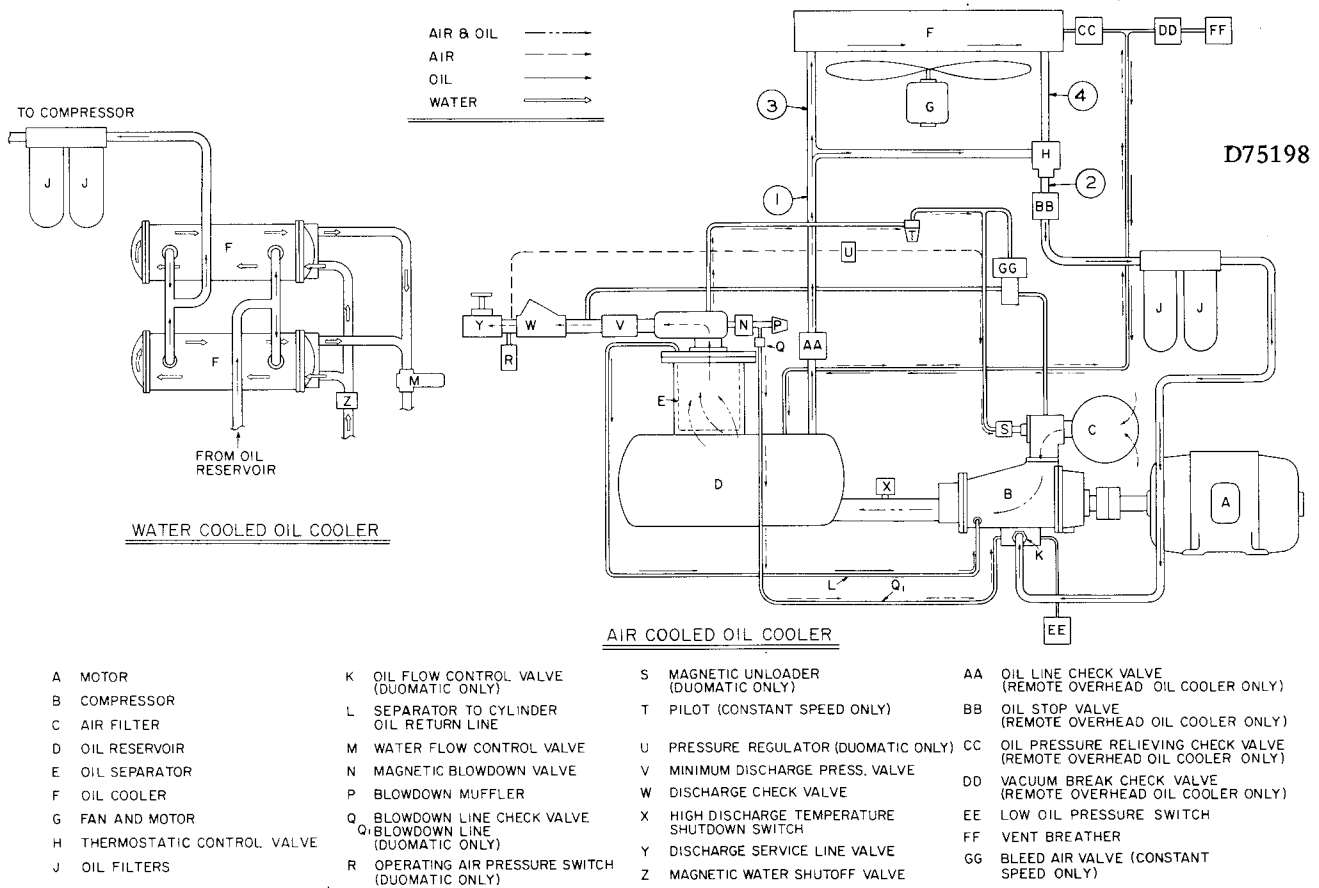
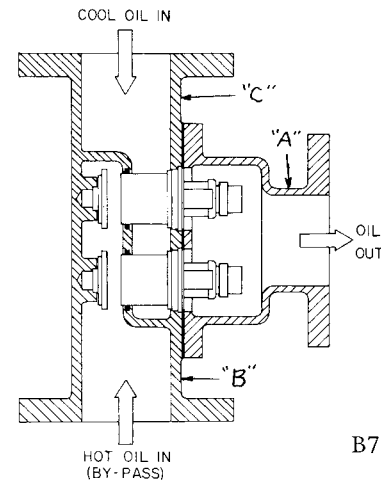
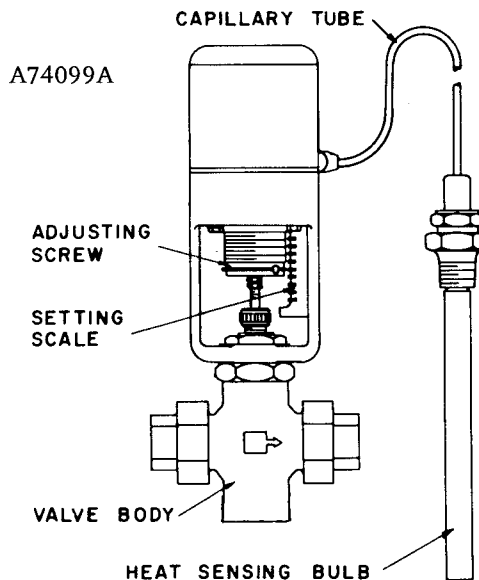

FIGURE 1-5. — FLOW DIAGRAM — AIR-OIL SYSTEMS
FIGURE 6-5. — THERMAL (THERMOSTATIC) MIXING VALVE
FIGURE 7-5. – WATER CONTROL VALVE
**COMPRESSOR OIL SYSTEM** (Figures 1-5 & 2-5) cools the compressor, lubricates moving parts and seals internal clearance in the compression chamber.
**THERMAL (THERMOSTATIC) MIXING VALVE (Used With Radiator-Type Oil Cooler Only)** (Figure 6-5) is installed in the system as shown in the flow diagram, Figure 1-5. On start-up with unit cold, the elements are closed to oil cooler allowing oil to circulate through bypass directly from oil reservoir to compressor during warm-up. As oil warms, elements gradually open to cooler and close to bypass to allow oil from cooler to mix with oil from bypass. After unit is warmed up, mixing valve maintains oil injected into compressor at a minimum of 130° F. This system provides proper compressor warm-up and prevents moisture contamination of oil.
To check elements, heat in oil — they should be fully extended at 130° F. If unit shuts down due to high air discharge temperature, the cause may be that one or both of the elements is stuck closed to the cooler thus blocking cooler out of the system, in which case lines 1 and 2 (Figure 1-5) will be hot to the touch and lines 3 and 4 much cooler. When flushing the oil system, remove the thermal elements and clean all parts thoroughly.
**COMPRESSOR OIL COOLER — WATER-COOLED HEAT EXCHANGER** (Figure 5-1) — The heat exchanger oil cooler is a multiple pass type, with water in the tubes and oil in the shell. The water flow is regulated by a self-operated flow control valve (Figure 7-5) installed in the water outlet line from the oil cooler as shown in the flow diagram (Figure 1-5) and designed to maintain the oil injected into the compressor at a minimum of 130° F.
**WATER FLOW CONTROL VALVE FOR HEAT EXCHANGER** (Figure 7-5) – The water flow control valve is adjustable to compensate for varying inlet water temperatures. Use the oil temperature thermometer on the instrument panel in setting the flow control valve. **To decrease water flow** (increase oil inlet temperature) turn the adjusting screw from left to right, increasing spring tension. **To increase water flow** (decrease oil inlet temperature) turn the adjusting screw in the opposite direction. The groove at the lower edge of the adjusting screw is an index line for use with the index scale 0 to 8 in obtaining a desired setting.
**WATER SHUTOFF VALVE – WATER-COOLED HEAT EXCHANGER** (Figure 1-5) – A magnetic solenoid-operated water shutoff valve rated at 150 PSIG water pressure is supplied in the water inlet line ahead of the oil cooler. The valve is wired into the compressor control circuit and opens to allow water to flow any time the ON-OFF push button is ON and the compressor is running. When compressor stops under automatic control, or is shut off manually, the valve closes, stopping water flow through the system.
**OIL FLOW CONTROL VALVE (Duomatic Control Unit Only)** (Figures 1-5 & 9-5) — An oil flow control valve is located at the inlet to the compressor oil sump at the end of the oil piping from the oil filter. This valve functions as a metering and check valve during unloaded operation; release of the air pressure in the oil reservoir allows pressure to fall on the upstream side of the valve and the spring seats the disc. The vacuum developed in the compressor when unloaded is sufficient to cause a lubricating amount of oil to flow through the orifice hole in the seated disc. When air pressure is again applied in the oil reservoir on loaded operation, the spring force is overcome, and the full amount of oil flows into the compressor. The spring and disc are available for repair. If the valve seat is damaged, a complete new valve should be purchased to insure proper mating of seat and disc.
**AUTOMATIC BLOWDOWN VALVE** (Figure 1-5) — A solenoid-operated magnetic valve wired into the control circuit is used to relieve pressure in the oil reservoir section each time the unit unloads (Duomatic Control Only) or is shut down. On the Duomatic Control system only, a line from the pipe tee just downstream of the blowdown valve directs a portion of the blowdown air to the compressor sump to aid in scavenging oil for a smooth transition to unloaded operation; the in-line check valve at the compressor sump prevents flow to atmosphere during loaded operation. A muffler terminates the blowdown line to reduce air discharge noise.